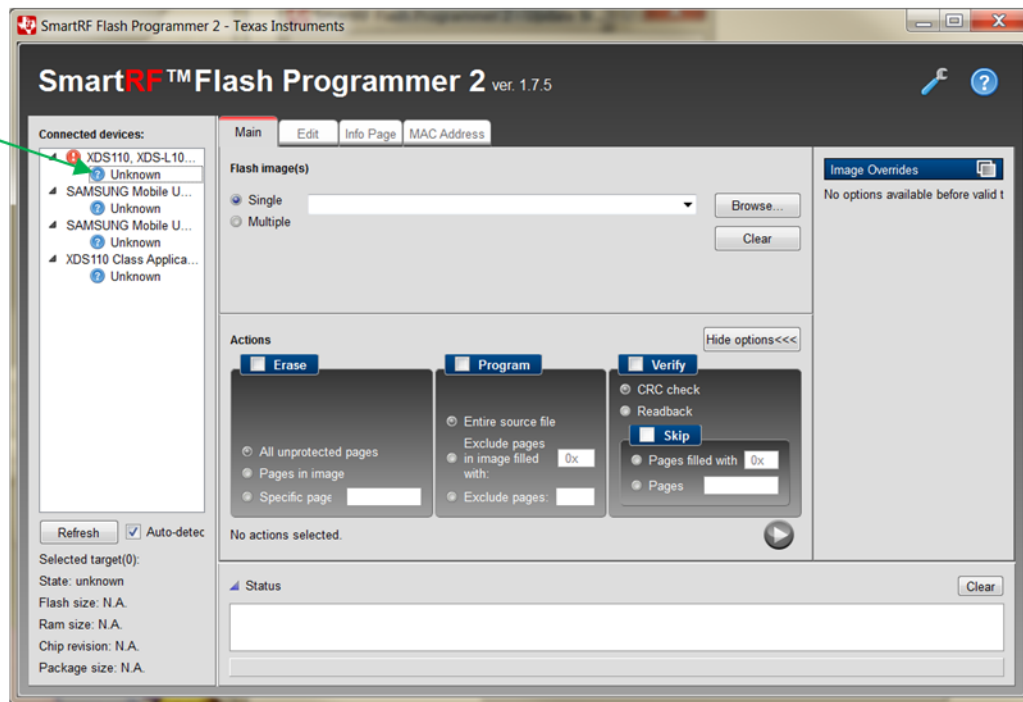

Figure 5. LaunchPad System Firmware Needs Update
3. If your LaunchPad requires system firmware update, the following screen is shown as follows. If the system firmware is up-to-date, skip to next step. In the left panel called *Connected Devices*, click on *Unknown* below XDS110, SDS-L1. See Figure 5